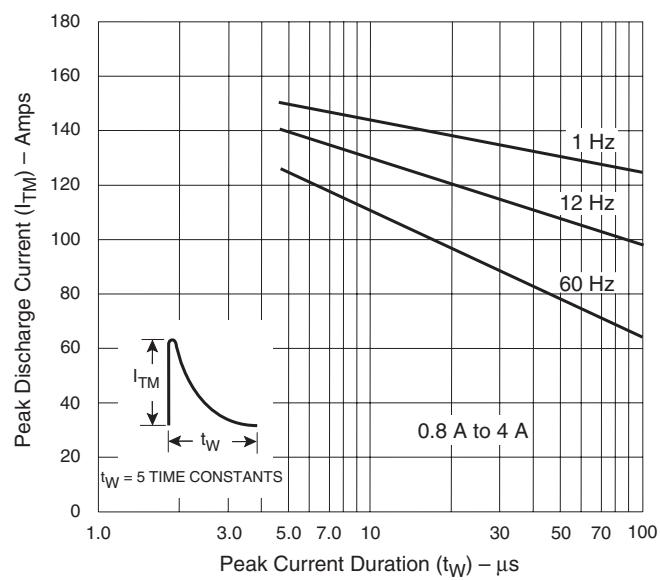
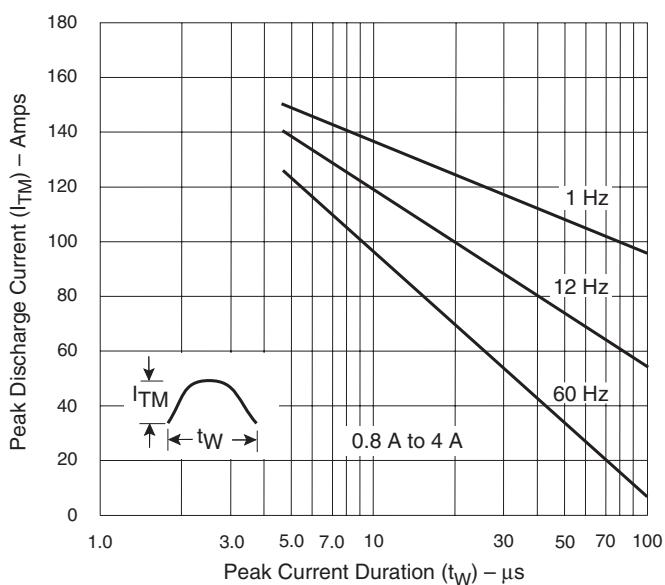

Figure E5.20 Peak Repetitive Capacitor Discharge Current
Figure E5.21 Peak Repetitive Sinusoidal Curve
- (7) 0.8 A to 4 A devices also have a pulse peak forward current on-state rating (repetitive) of 75 A. This rating applies for operation at 60 Hz, 75 °C maximum tab (or anode) lead temperature, switching from 80 V peak, sinusoidal current pulse width of 10 µs minimum, 15 µs maximum. See Figure E5.20 and Figure E5.21.